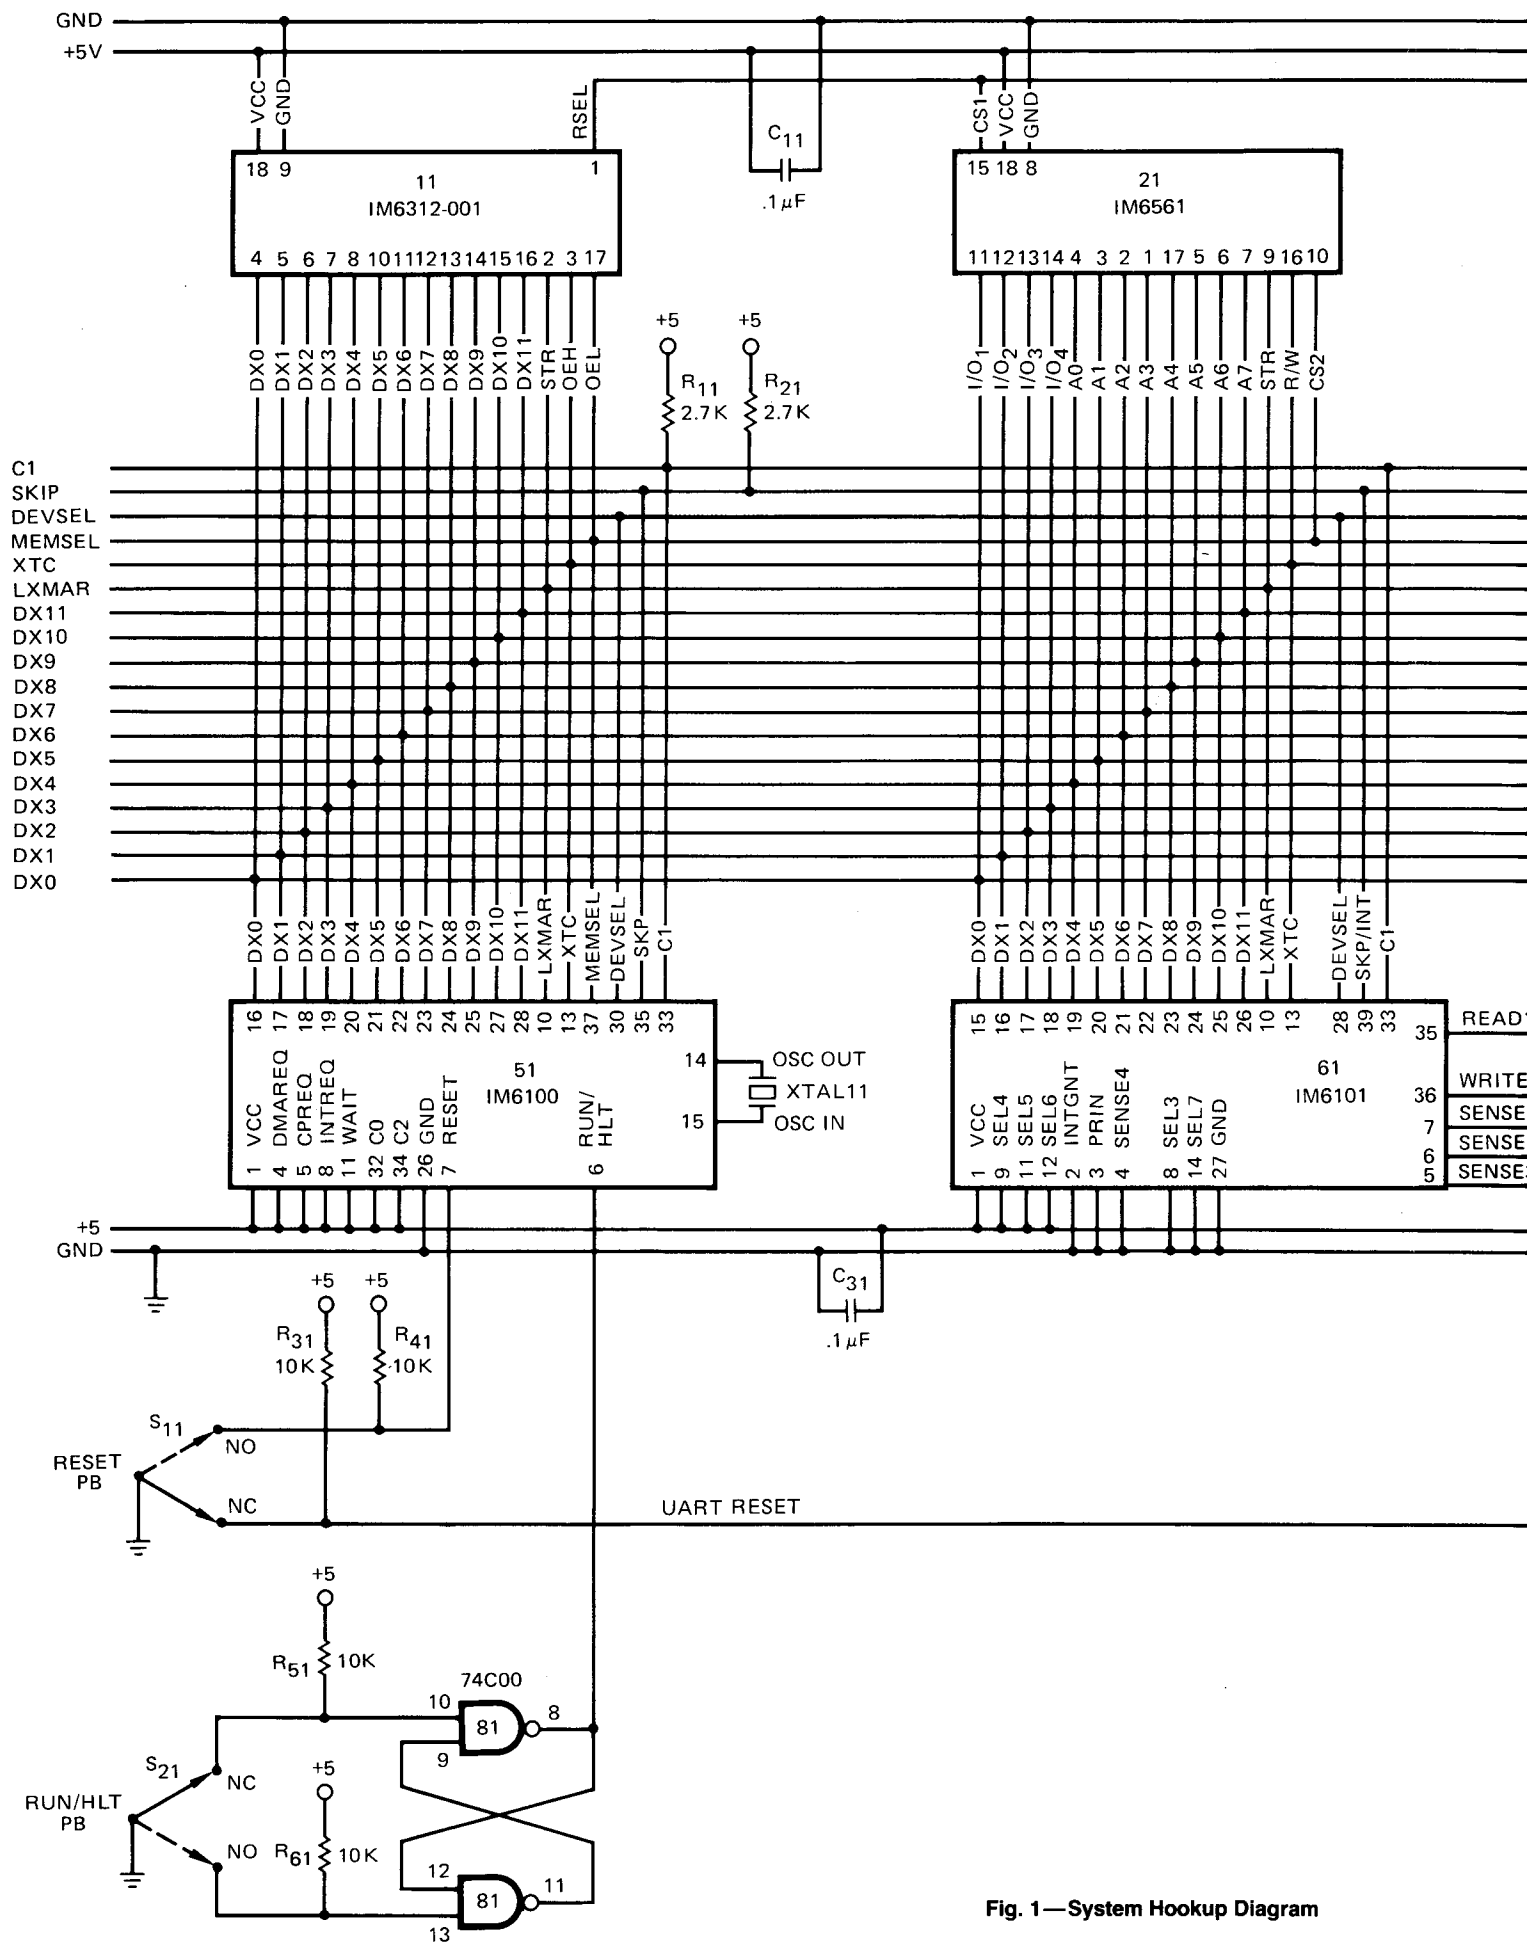

Fig. 1—System Hookup Diagram
Additional requirements to enable the system to be fully operational are a single 5 volt power supply, two crystals, a 3.3 MHz crystal for the microprocessor and a 3.60 MHz crystal for a 110 baud serial port, control logic to reset and run the system and serial I/O level shifters to communicate with a Teletype or other ASCII terminals (Figure 1).
1. Connect up the CMOS/LSI devices as shown in Figure 1.